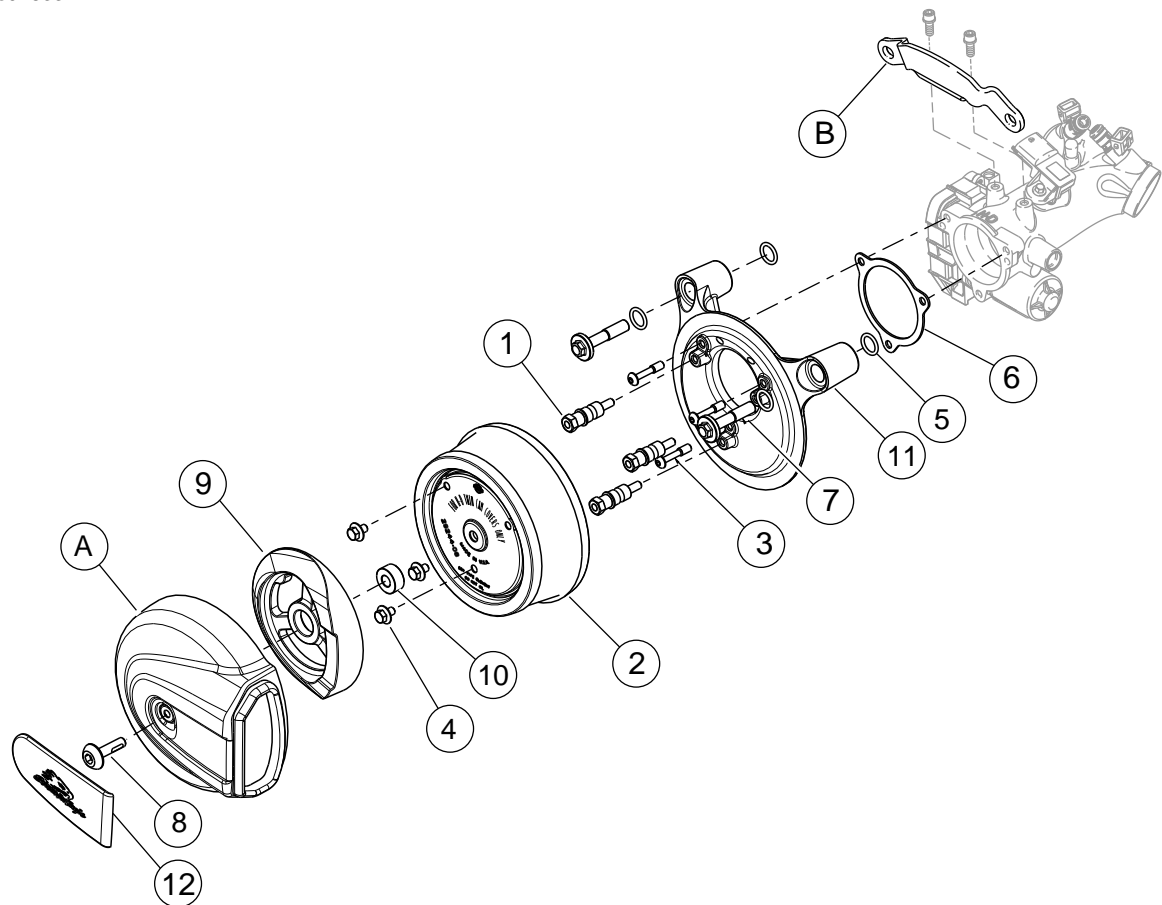

Figure 1. STAGE I AIR CLEANER
See Figure 1 and Table 1.
2. See Figure 1 and Table 1. Remove stock air cleaner cover (A). Discard remaining parts.
4. Remove and discard support induction module bracket (B).
1. See Figure 1. Peel the protective strip off the gasket (6) and place the adhesive side onto the backplate (11). Align to the equally spaced screw holes, and position the gasket carefully before firmly pressing the gasket into place.
2. Install two O-rings (5) from kit in grooves around breather screw holes on induction module side of backplate assembly. Install two O-rings (5) from kit in grooves in underside of head of breather screws (7).
3. Insert new breather screws (7) through the backplate (11).
6. Thread backplate screws (3) all the way through the backplate (2) until the screw threads are exposed on back side of backplate. Apply Loctite 243 (blue) to backplate screw threads.
8. Thread air cleaner element mounting studs (1) into the backplate (11). Do not tighten completely at this time.
9. Alternately tighten two breather screws (7) to 120-144 **in-lbs** (13.6-16.3 Nm).
10. Tighten three backplate screws (3) to 55-60 **in-lbs** (6.2-6.8 Nm).
11. Tighten three element mounting studs (1) to 55-60 **in-lbs** (6.2-6.8 Nm).
1. See Figure 1. Secure air filter element (2) to air cleaner mounting studs (1) using screws (4). Tighten screws to 55-60 **in-lbs** (6.2-6.8 Nm).
2. Carefully remove and discard the original air cleaner cover insert from air cleaner (12). Remove any residual adhesive on the cover with mineral spirits.
1. See Figure 1. Remove air cleaner and inspect the filter element (2) every 5000 mi (8000 km) or more often under dusty conditions.
3. Install air cleaner insert (12).